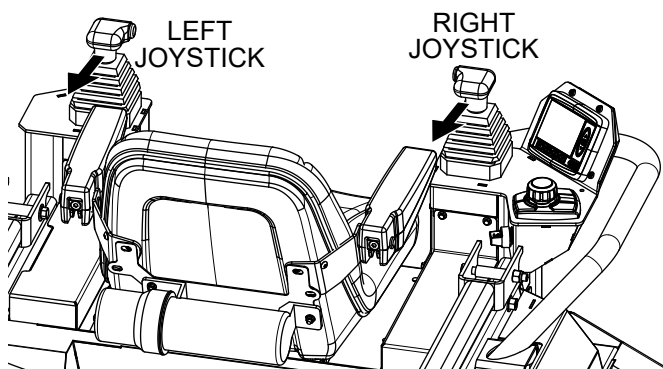

Figure 47. Joysticks (Reverse)
- Pull both the left and right joysticks backward (Figure 47) and repeat steps 3–4 while substituting the word *reverse* for *forward*.